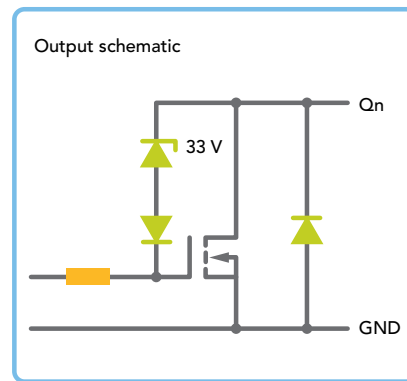

Figure 3. Output schematic for shift register with open-drain outputs
Figure 3 gives the output schematic for one such device, the NPIC6C596A LED driver from NXP, which combines shift register functions similar to a 74HC595 with a high-voltage (HV) MOSFET driver.